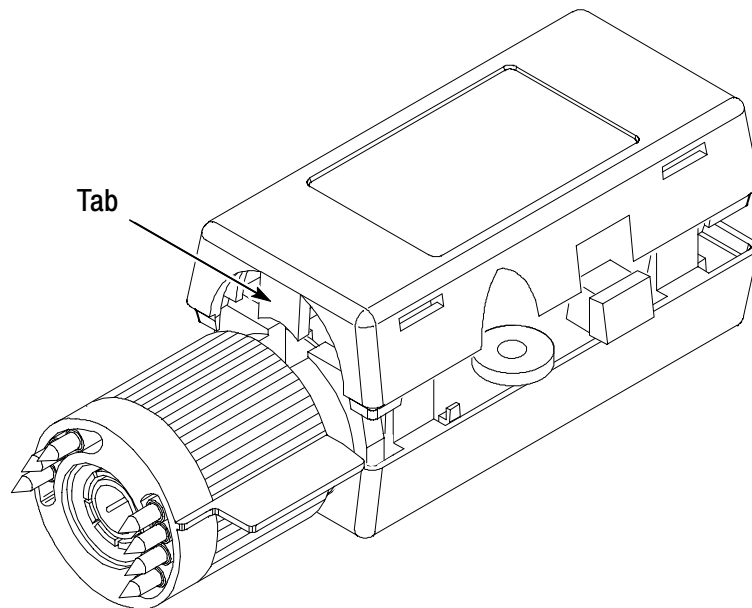

Figure 24: Replacing the Compensation Box Cover
1. Align the TekProbe interface and the strain relief notches with the tabs on the cover. Refer to Figure 24.